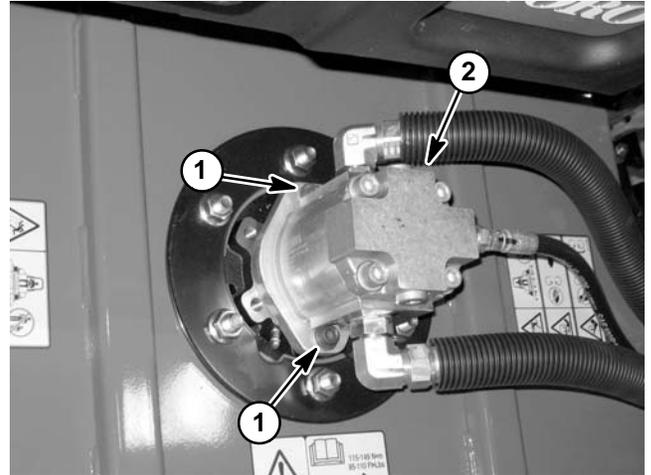

Figure 69
5. Remove two (2) socket head screws and flat washers that secure hydraulic motor to cutting deck (Fig. 69).
4. Secure motor to cutting deck with two (2) socket head screws and flat washers (Fig. 69).